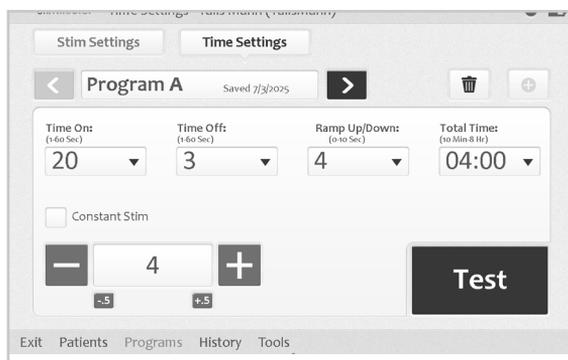

Figure 9-8: Time Settings window
- The default time setting is constant stimulation. When “Constant Stim” is checked, “Time On” and “Time Off” are disabled; “Ramp Up/Ramp Down” and “Total Time” can be adjusted. See Figure 9-8. To change the “Time On” and “Time Off” settings, uncheck “Constant Stim” box and adjust “Time On” and “Time Off” using the drop-down lists.